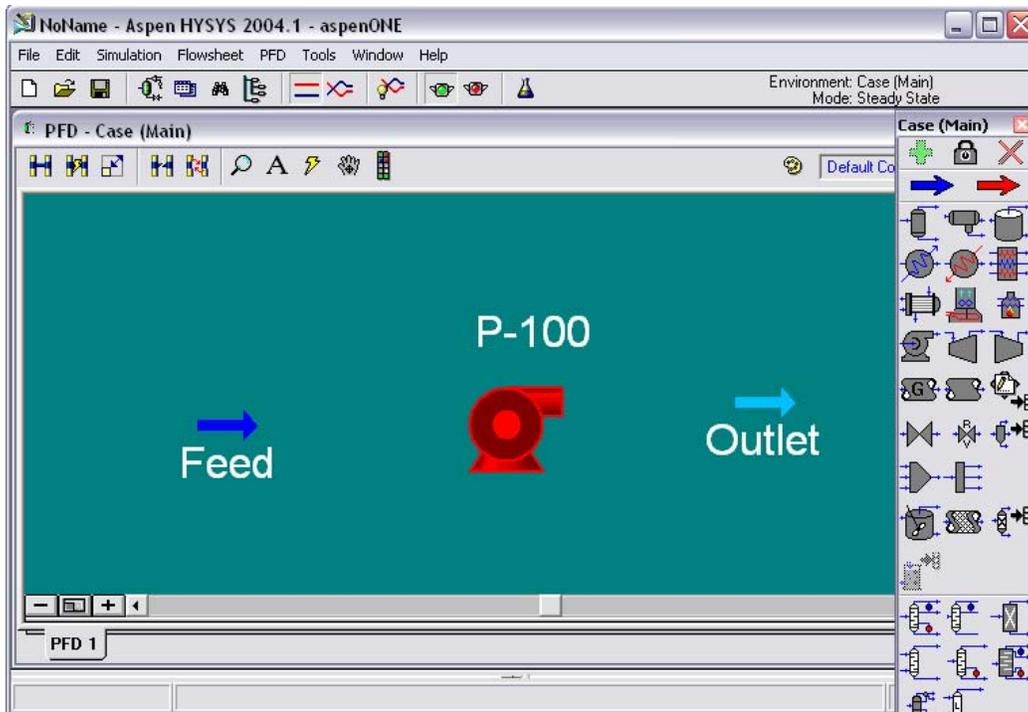
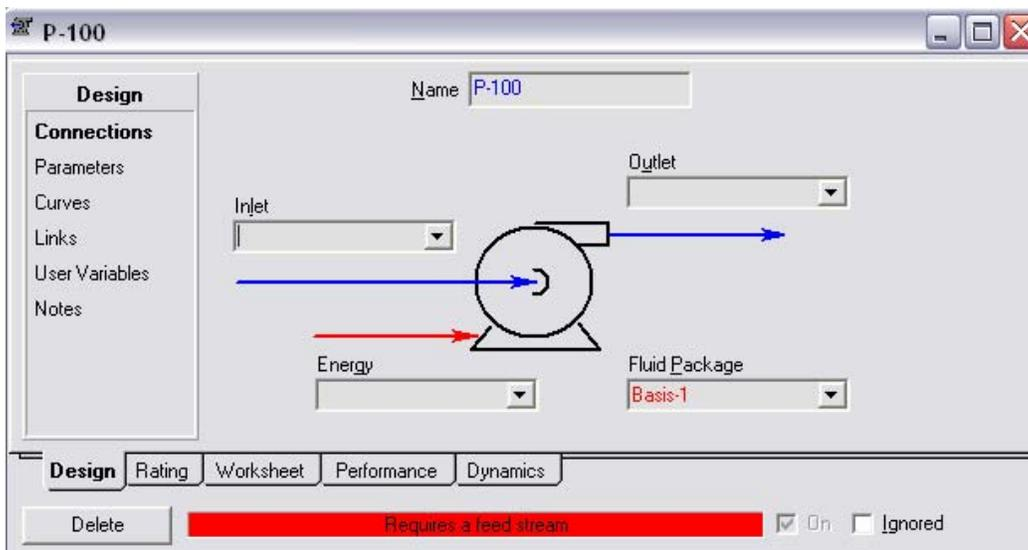

Figure 3-1: Installing Pump in HYSYS
Figure 3-2: Pump Window Property
2. This will install a pump on the PFD as shown in Figure 3-1.
1. From Figure 3-1, double-click on the **Pump P-100** icon to open the pump window as shown in Figure 3-2.